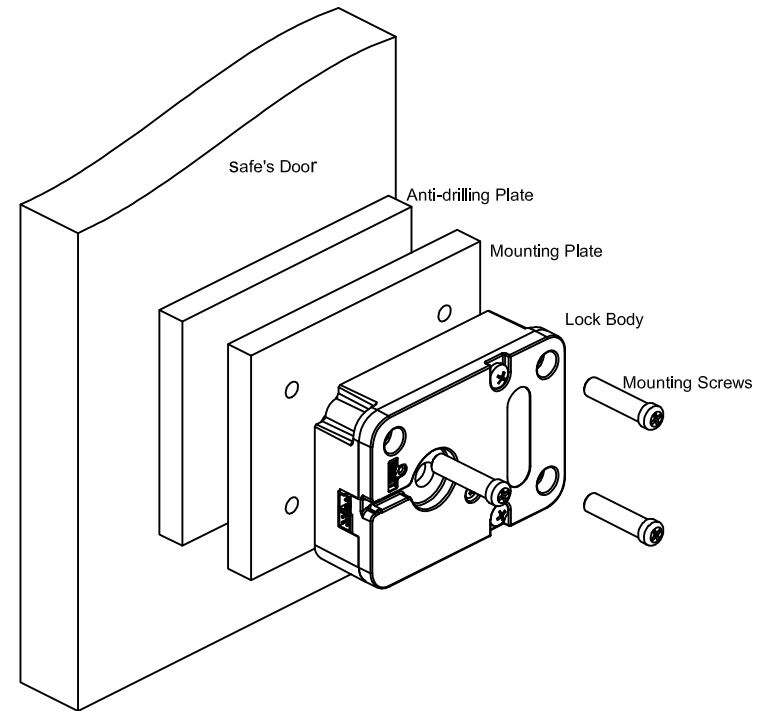

Fig. 13
2. Attach the Entrypad to Entrypad base with two pins on the Entrypad Base matching the two pin holes on the back of the Entrypad (Fig.13 & 14).
Following figured is a recommended protection by anti-drilling plate. Anti-drilling plate is weld between mounting plate and safe's door. (Fig. 13)